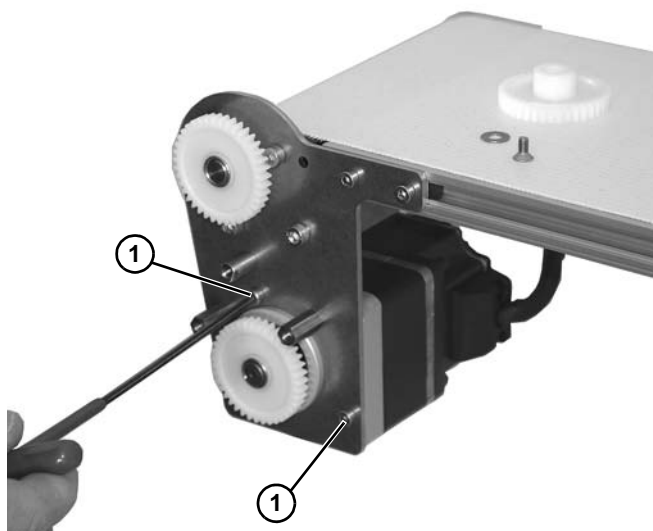

Figure 18
14. Install new gearmotor assembly and tighten two screws (**Figure 18, item 1**) 15 in-lb (1.7 Nm).